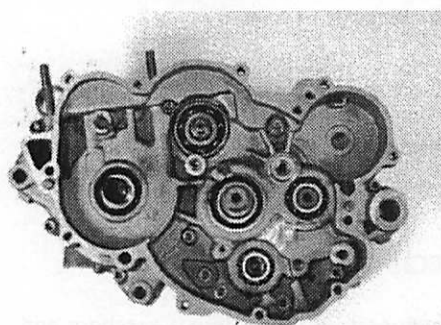

Figure 28
1. Position the engine on the trestle, or lay it on wooden blocks, with the magneto side (Figure 28) facing down.